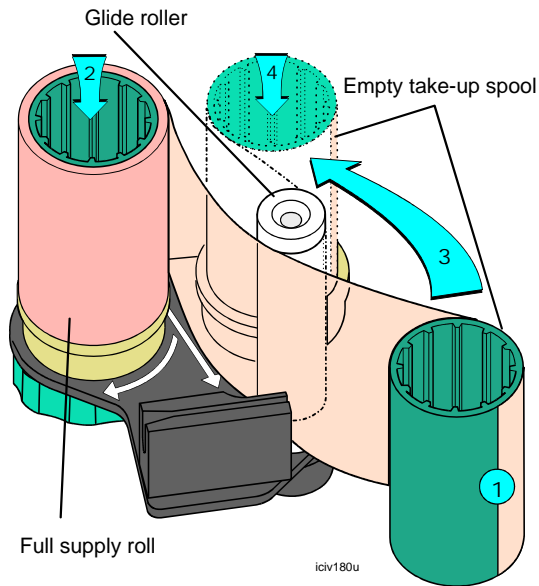

Figure 4-6: Load cleaning tape in the cartridge
- 7 Press the end of the new cleaning tape onto the empty take-up spool (step 1 in Figure 4-6). Make sure the edges of the tape align with edges of the spool so the tape moves evenly.
- 9 Place the full supply roll on the supply spool holder so the tape will unroll clockwise (step 2 in Figure 4-6). Make sure the ribs inside the spool align with the grooves of the spool holder.
- 11 Move the take-up spool back so it aligns with the take-up spool holder (step 3 in Figure 4-6).
- 12 Press down on the take-up spool and turn slightly (if needed) until the spool fully covers the spool holder ribs (step 4 in Figure 4-6).